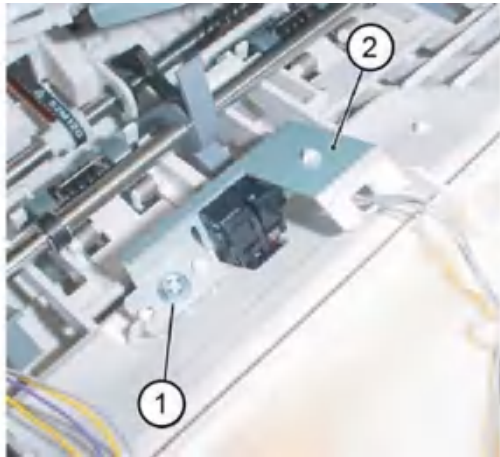

Figure 3 Compiler exit sensor assembly removal
6. Remove the compiler exit sensor assembly, **Figure 3**:
- a. Remove the screw (1).
- b. Remove the compiler exit sensor assembly (2).